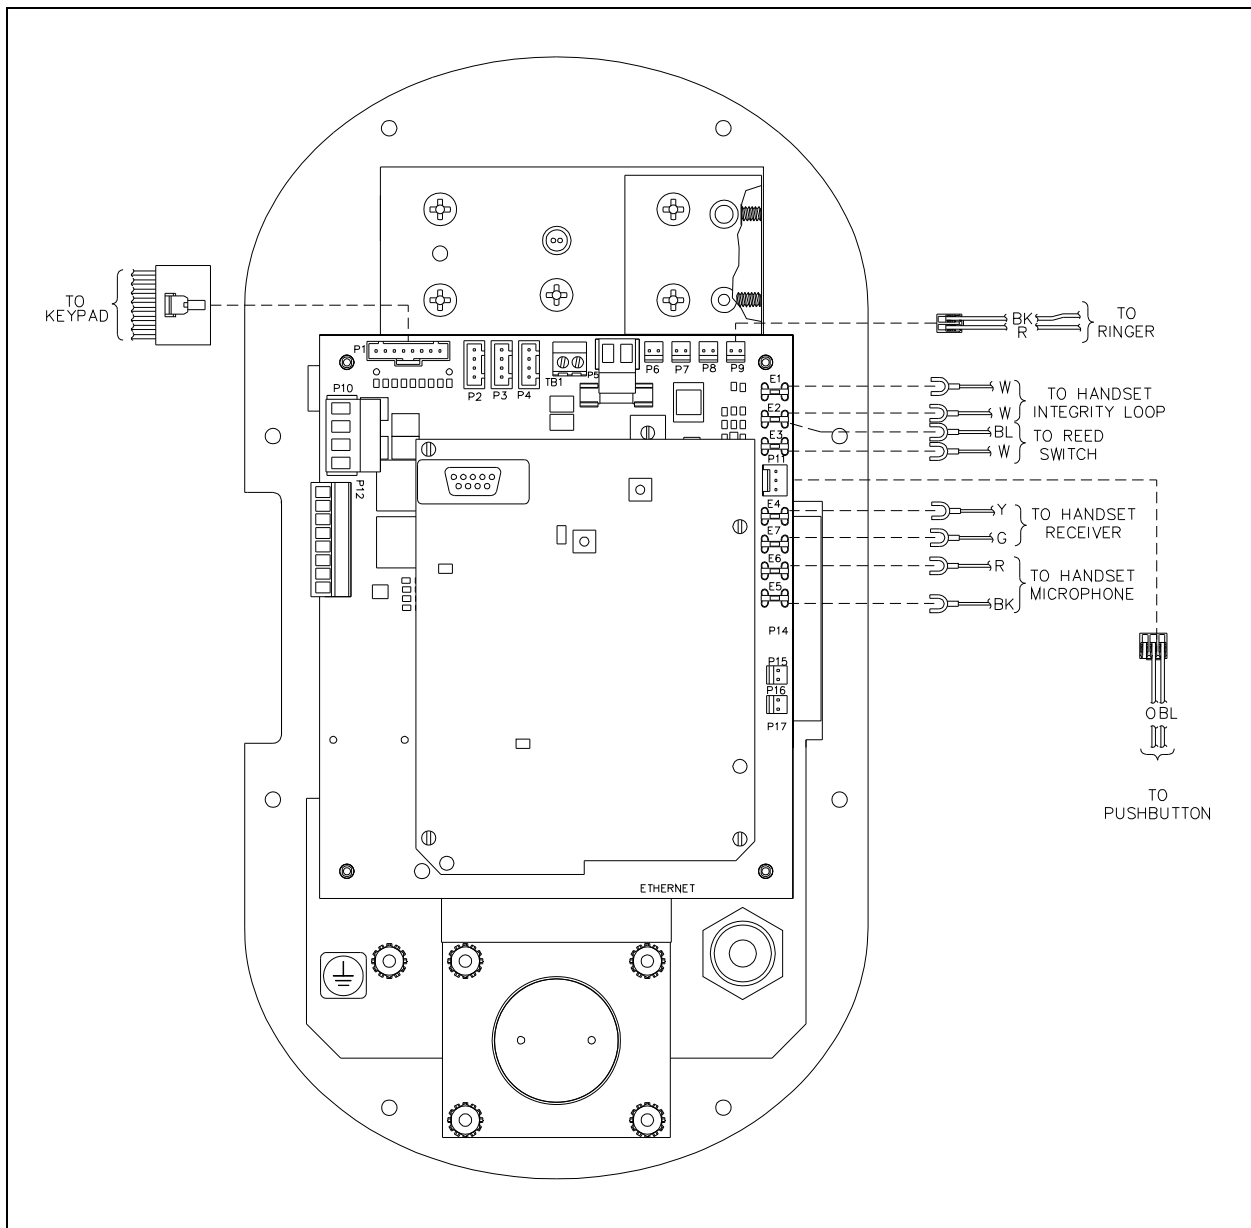

Figure 1. Model 226-700
1. Align the holes of the new PCBA with the snap-on nylon standoffs in the telephone, maintaining proper orientation. Refer to Figure 1 as an example.
3. Reconnect the handset, hookswitch, volume control push button, keypad, and ringer cables to the PCBA. Refer to Figure 1.